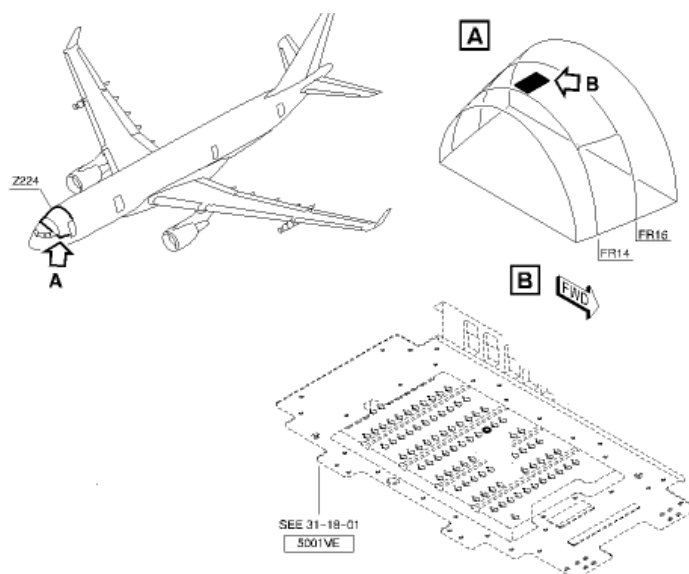

Figure 1. Panel Location.
6.2.1 On the control panel 5001VE (Figure 1), set the GND SELEC CTL switch to ON.
6.2.3 On the control panel 5001VE (Figure 1), set the GND SELEC CTL switch to OFF.